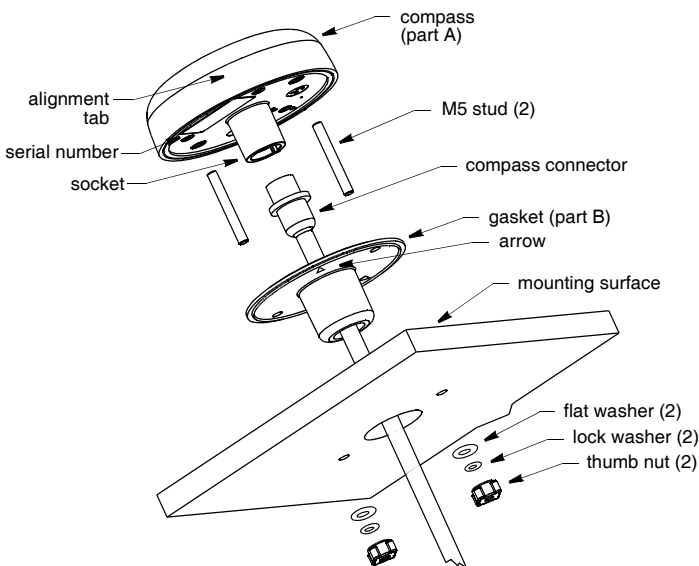

Figure 4. Flush mount
1. Remove the label from over the compass's socket (part A) (see Figure 4).